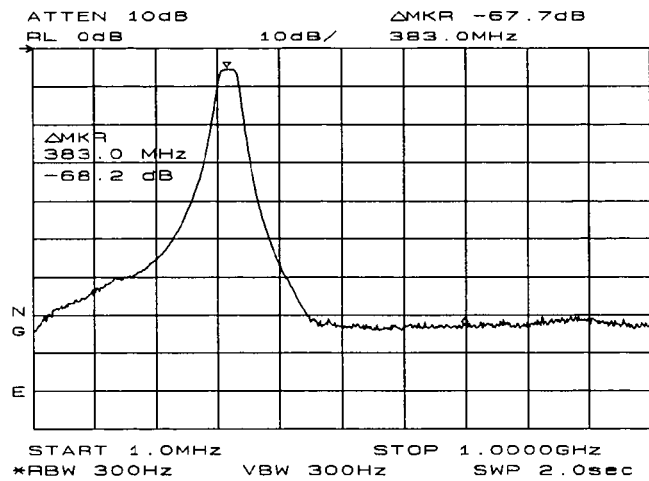

Figure 3-24. Measure the rejection range with delta markers.
7. Measure the range using the delta markers. Press **PEAK SEARCH**, **MARKER DELTA**, and use the knob to position the second marker in the rejection area of the bandpass filter as shown in Figure 3-24.